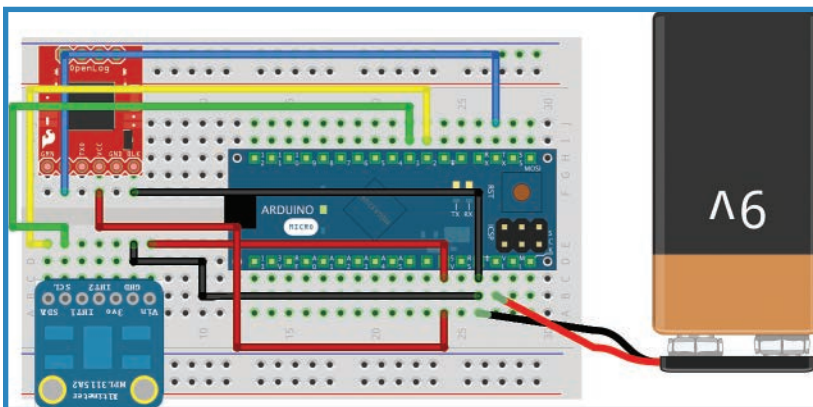

FIGURE 5.17 Connect the battery's leads to power your project.
5. Add the battery. The leads plug into the Micro pin marked VI (voltage in) as well as ground, shown in Figure 5.17.